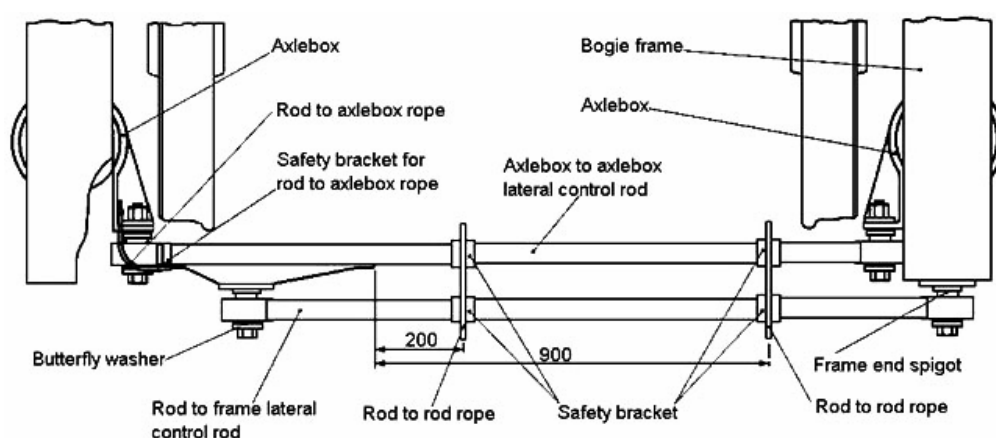

Figure 29.1: Assembly of Lateral Control Rods
- 29.1.1 Apply Commercial Quality SBR/NBR nitrile rubber, shaw hardness 70 degrees (25 wide x 5 thick) to the Lateral Control Rod under the bracket seating area. See Figures 29.1 and 29.2 for locations of rubber and brackets.
29.2.1 Apply Commercial Quality SBR/NBR nitrile rubber, Shaw hardness 70 degrees (25 wide and 5 thick) approximately 250mm long, to the lateral control rods on the seating area for the rod-to-rod rope safety brackets (see Figures 29.1 and 29.3).